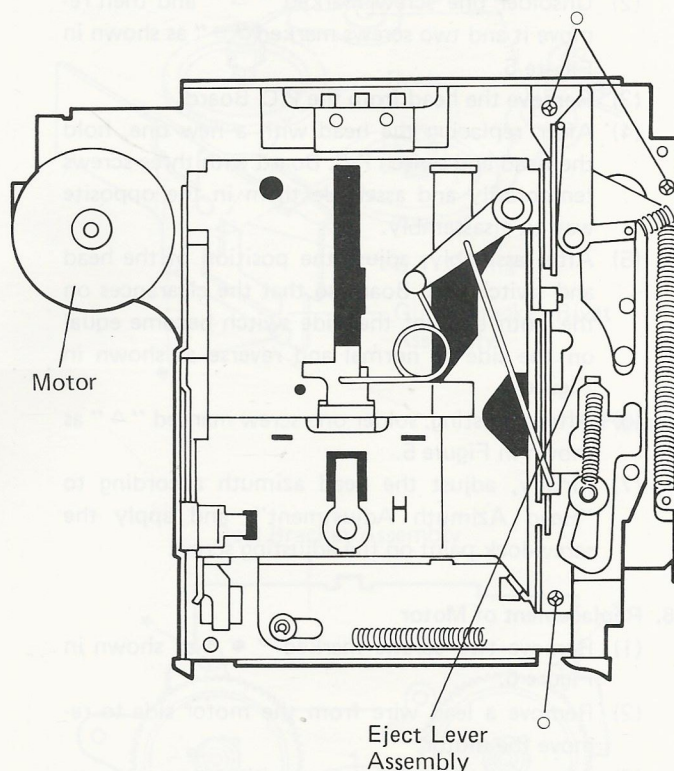

Figure 1
- (1) Remove three screws marked "○" as shown in Figure 1.
- (2) The eject lever assembly can be removed.